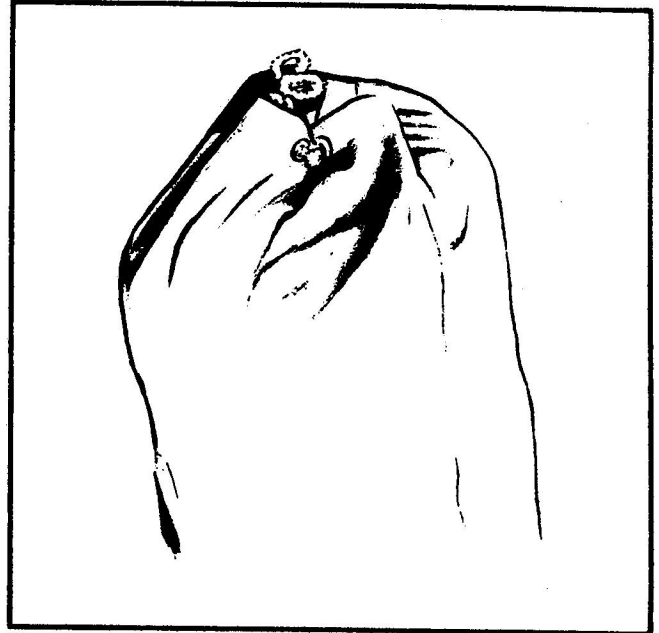

Figure 3-1 Container Bag Sealed
STEP 4 (a) Seal in accordance with EO 55-15-2, also see Figure 3-1.
3 To be carried out in accordance with EO 55-15-2. The container bag is to be sealed as shown in Figure 3-1.